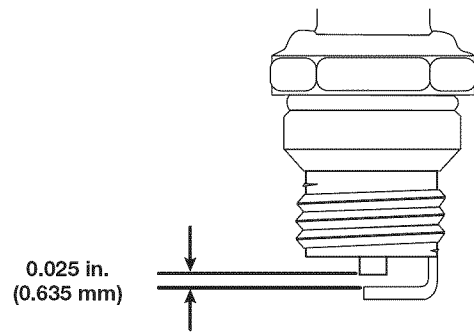

Fig. 29
6. Use a feeler gauge to set the air gap at **0.025 in. (0.635 mm)** (Fig. 29).